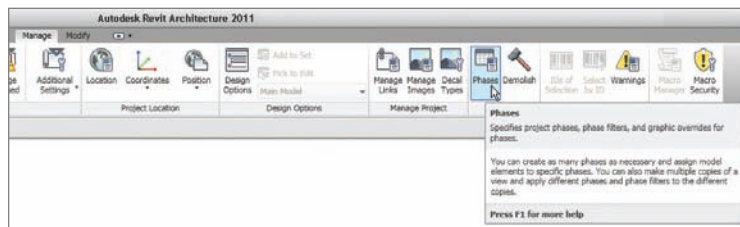

FIGURE 21.1 Clicking the Phases button
I have seen this scenario played out more times than I would like. People get Revit, build a model, and then start clicking the Demolish button found on the Phasing panel on the Modify tab, as shown in Figure 21.1. Yes, it forces hidden lines, now you are demolishing walls that were constructed in the same phase as they are being removed. You can't just do that!
2. On the Manage tab, click the Phases button on the Phasing panel, as shown in Figure 21.1.